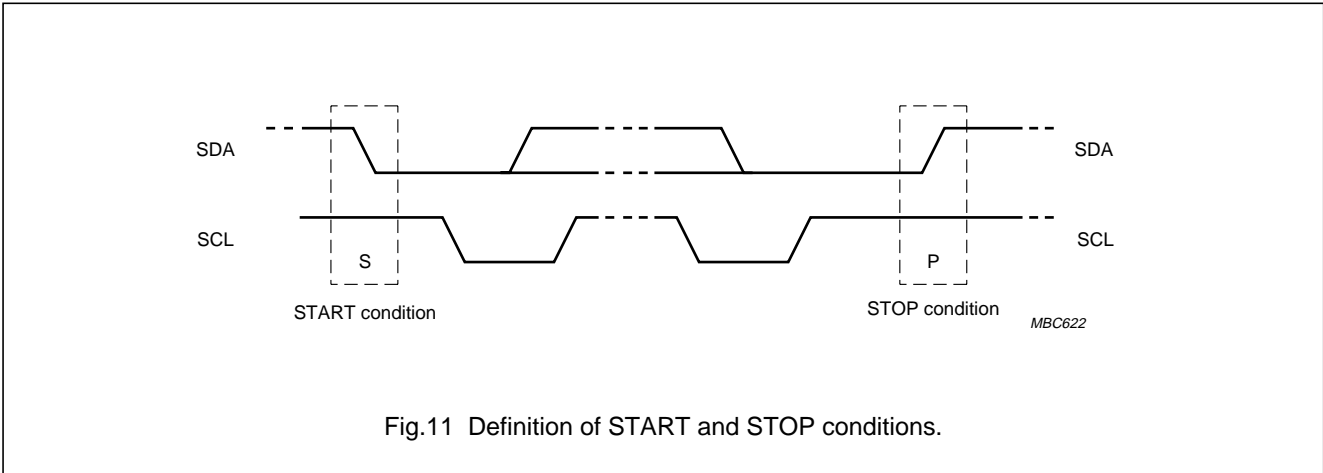

Fig.11 Definition of START and STOP conditions.
A LOW-to-HIGH transition of the data line while the clock is HIGH is defined as the STOP condition (P). The START and STOP conditions are illustrated in Fig.11.